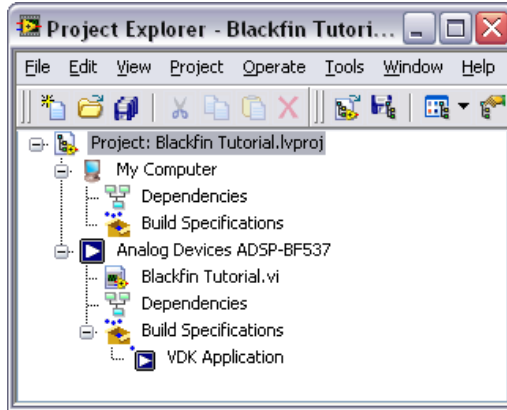

Figure 16. Blackfin Build Specification in the Project Explorer Window
- Click the **OK** button and expand the **Build Specifications** item in the **Project Explorer** window. The build specification you just created appears under the Blackfin target as shown in Figure 16.